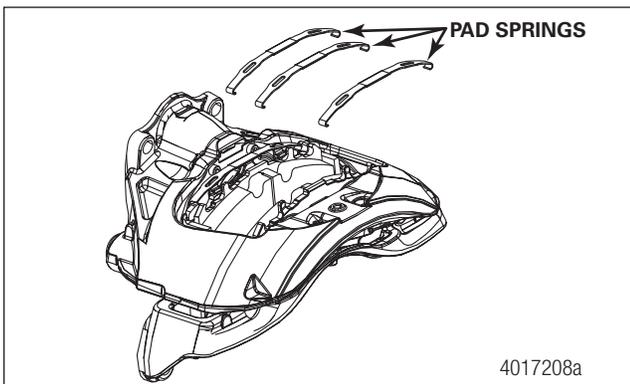

Fig. 6.8 Pad Springs
STEP 4 - Remove the pad springs. Figure 6.8.